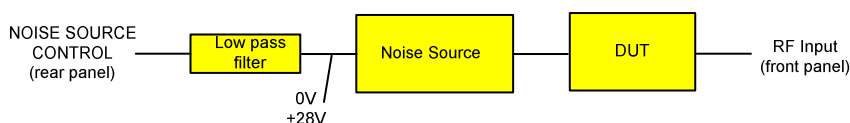

Fig. 2-74: Test setup for the main measurement
1. Insert the DUT (in this example, the amplifier) into the test setup between the noise source and RF input of the R&S ZVL-K1 (see Fig. 2-74).